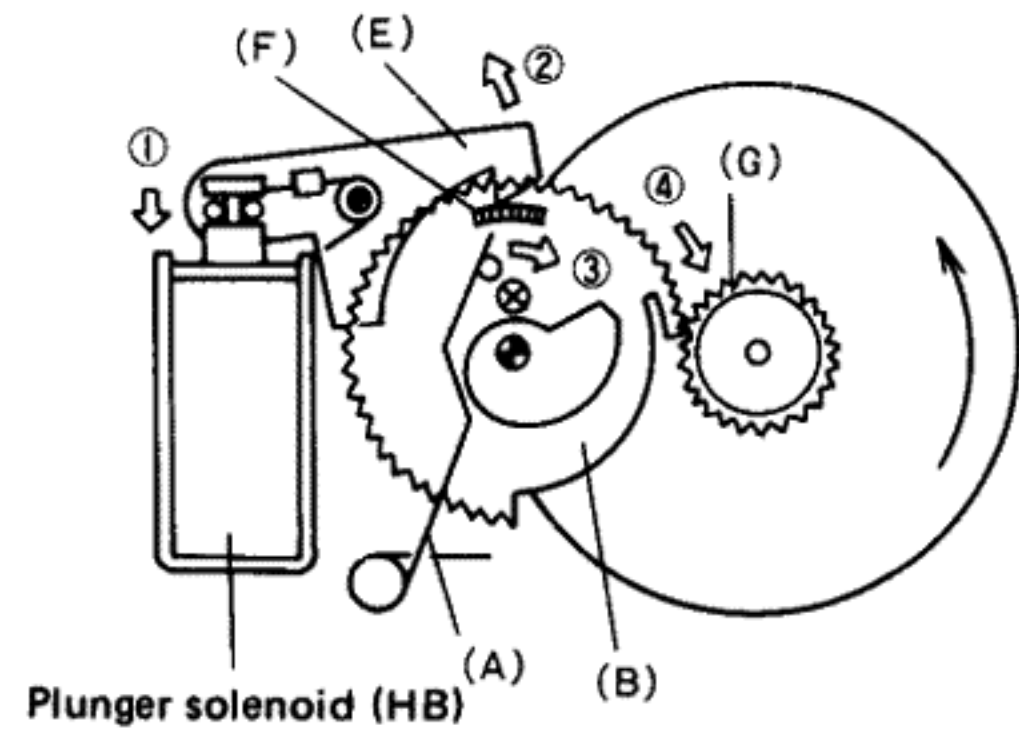

Fig. 4-2 STOP to PLAY operation 1
### • STOP → PLAY (Fig. 4-2)
First, the plunger solenoid (HB) is activated to switch the mechanism to playback mode as shown in Figs. 4-2 thru 4-4 (but only for a very short period of time). Plunger solenoid (MS) is activated at the same time, and although plunger solenoid (HB) is soon released, the head base is kept in the raised state by plunger solenoid (MS) via MS arm B, brake lever, and HB stopper. The pinch roller is separated from the capstan by MS arm A. When the reel motor then rotates, the cue (review) operation is started.